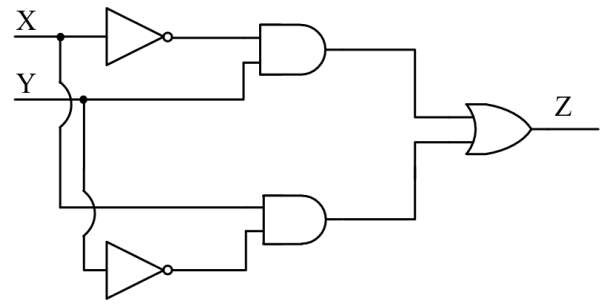

Fig. 3.13
24. Find the logic function implemented by the circuit given below in Fig. 3.13 (GATE EE 2019)
- (A)  $\overline{P \oplus Q} = P \odot Q$
- (B)  $\overline{P \oplus Q} = P \odot Q$
- (C)  $\overline{P \oplus Q} = P \oplus Q$
- (D)  $(P \oplus \overline{P}) \oplus Q = (P \odot \overline{P}) \odot \overline{Q}$